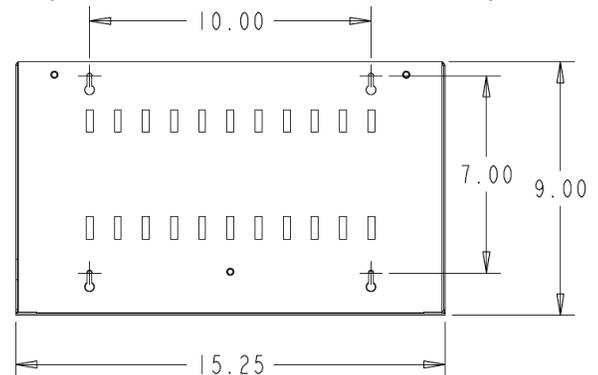

Figure 2
- 1) If desired, wall mounting can also be accomplished with use of the optional mounting shelf (See Optional Mounting Shelf and Figure 2).